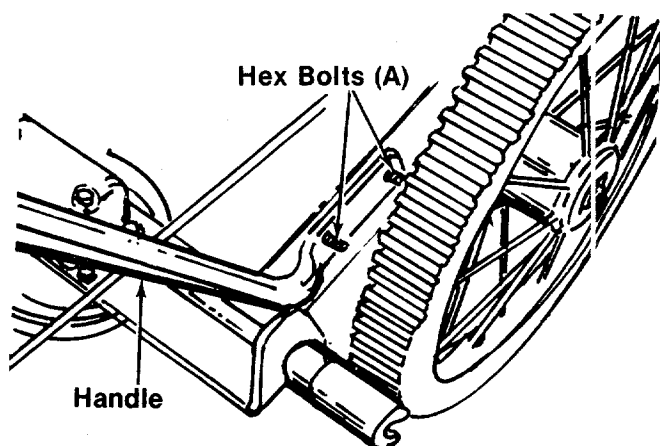

FIGURE 2.
1. Line up the holes in the handles with the holes in the frame. Secure with hex bolts (A), lock washers (B) and hex nuts (C). See figure 2. Start all four nuts and bolts by hand, then tighten securely.